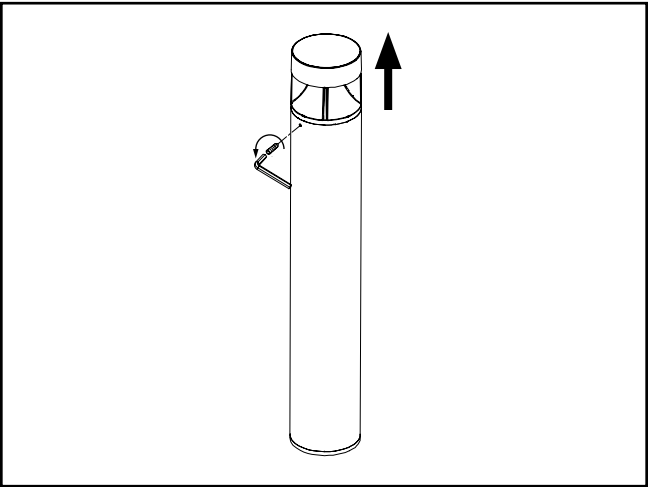

Figure 3.
3. Using the hex wrench, loosen the 3 screws on the side of the head, and open the top head. Fig. 3